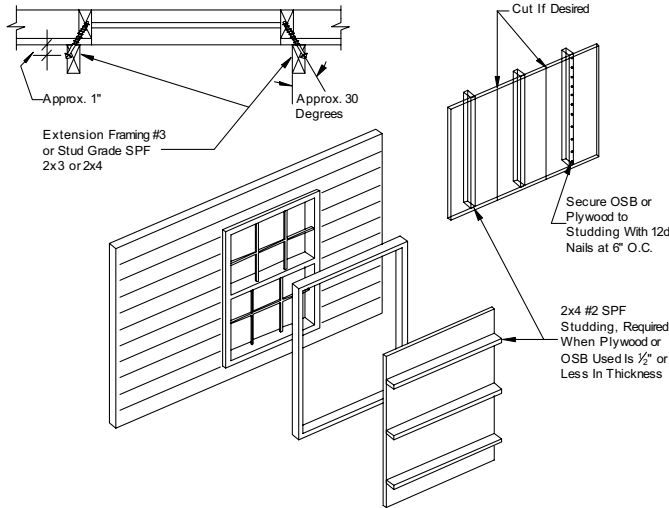

Figure 91. Wind protection shutter construction
If desired, prepare temporary protective window covers for use during severe wind storms and hurricanes according to **Figure 91**, **Table 36**, and the procedure below.
- 2.** Assemble shutter panels as shown in **Figure 91**.